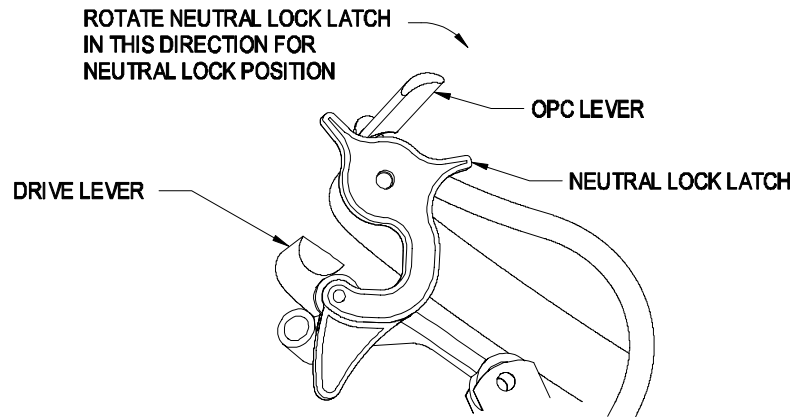

FIGURE 5
4.1.2 Operator Presence Control (OPC) Levers: Located on the upper handle assembly directly above the handle grips. See Figure 5. **When these levers are depressed, the OPC system senses that the operator is in the normal operator's position. When the levers are released, the OPC system senses that the operator has moved from the normal operating position and will kill the engine if either the speed control lever is *not in the neutral* position or the *PTO is engaged*.**
4.1.4 Drive Levers: Located on each side of the upper handle assembly directly below the handle grips (See Figure 5). These levers individually control the speed and direction of each drive wheel. When the speed control lever is moved out of the neutral position and the neutral lock latches are moved into the drive position, as shown in Figure 5, and the drive levers are released, the drive wheels are engaged in the forward direction.
- 4.1.5 **Neutral Lock Latch:** Located at the end of the handles. The purpose of these latches is to allow the operator to lock the drive levers in a "neutral" position where neither of the drive wheels are engaged in either a forward or reverse direction (See Figure 5).